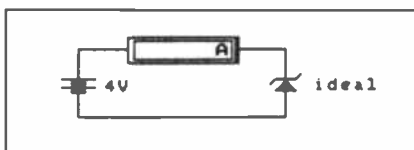

Fig. 3.9 Circuit for Assignment 3.2.
1. Connect the circuit shown in Fig. 3.9 using a 4V battery.